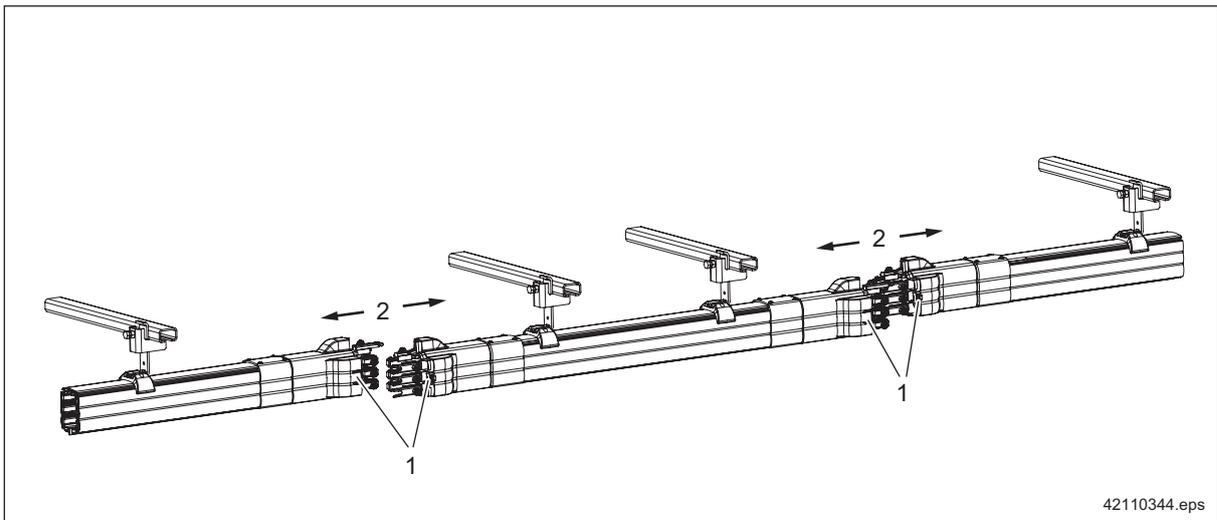

Fig. 49
- Use a screwdriver to lever off both side tabs (1), ⇒ Fig. 49, Page 52 on the middle of the enclosure.
- Slide the connector covers apart (2).